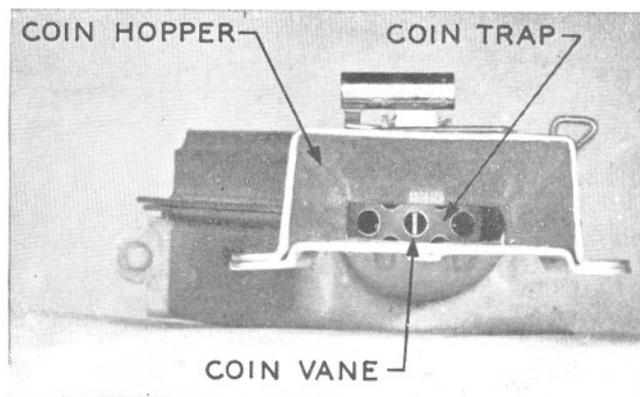

FIG. 9 — POSITION OF VANE WHEN RELAY IS CENTERED
3. When assembling the relay, it shall be as close as possible to the hopper, but there shall be at least 1/6-inch clearance between the fork and the hopper, between the vane stem and the relay, and between the trap counterweight and the relay. The coin trigger shall not touch at upper end of slot in coin hopper or bind on sides of slot at any point of its travel. The full thickness of the vane shall be visible in center hole of coin trap (see Fig. 9). If this cannot be obtained with a replacing relay, the coin collector should be replaced.